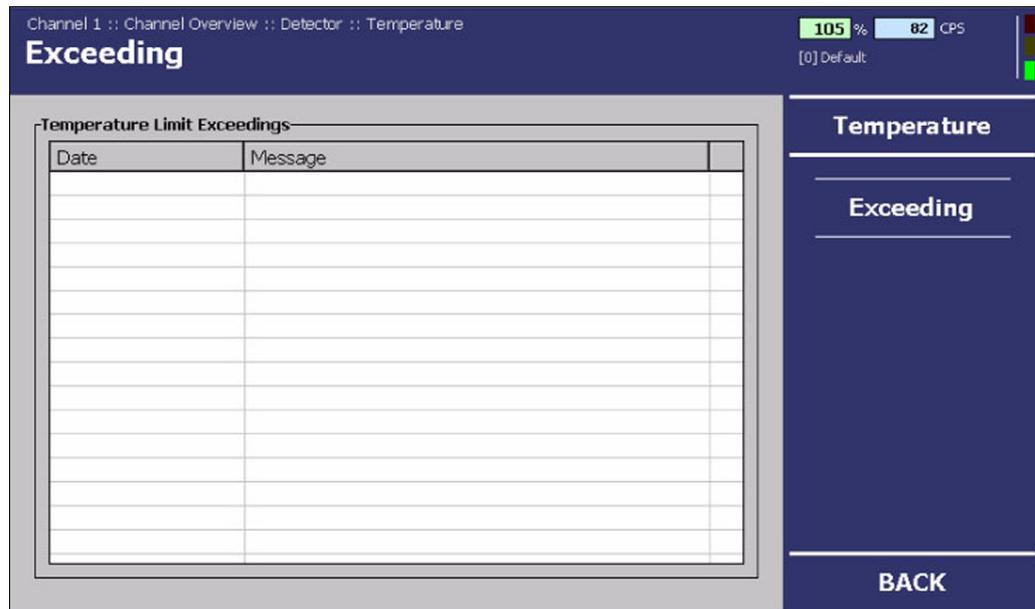

Fig. 28 "Channel Overview" menu, Detector - Temperature (Exceedings)
In the "Exceeding" submenu, you can see a tabular overview (Fig. 28, pos. 1) of the excessive temperatures.